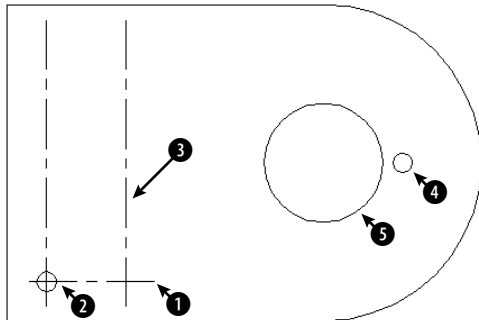

Figure 10-6: A partially completed mounting bracket.
2. Save the file as `ab10-02.dwg` in your AutoCAD Bible folder. It looks like Figure 10-6. OSNAP should be on. Set center and intersection running object snaps.
4. Click the Select Objects button of the Array dialog box. In the drawing, pick the horizontal centerline **1** in Figure 10-6 and then press Enter. You return to the dialog box.
10. Click the Select Objects button in the Array dialog box. In the drawing, pick the circle **2** in Figure 10-6 and then press Enter.
12.  Click the Pick Both Offsets button. In the drawing, pick the center of circle **2** and the intersection of centerlines near **3** in Figure 10-6. (You can also pick the intersection of centerlines at the center of circle **2**. If necessary, press Tab until you get the object snap that you want.)
14. To create a six-hole bolt circle, pick the hole **4** in Figure 10-6.
17.  Next to the Center Point text boxes, click the Pick Center Point button. In the drawing, pick the center of the large circle at 5 in Figure 10-6.